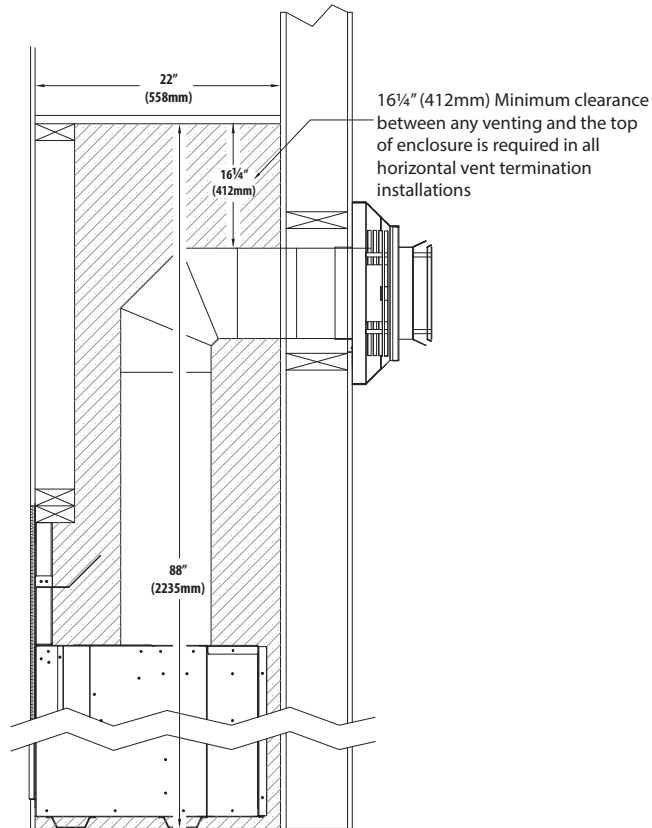

Figure 3.6, Vent Termination Minimum Framing Clearances
- A minimum of 16-1/4" (412mm) clearance from any venting to the enclosure top is required in all horizontal vent termination installations. The horizontal pipe after the wall pass-through must maintain a 1" (25mm) clearance to combustibles on all surfaces of the pipe. See Figure 3.6 on page 17.